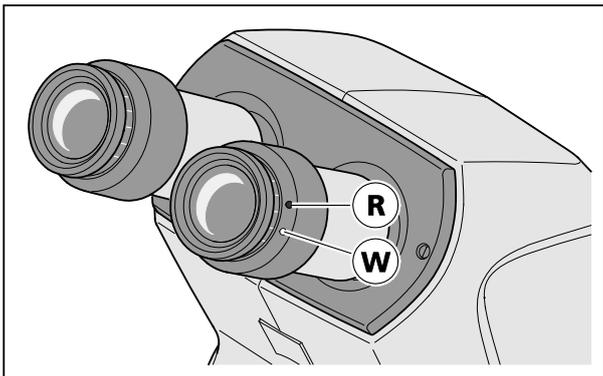

Fig. 14 Adjusting the eyepieces
-  "0" on white dot (without eyepiece plate). "0" on red dot (with eyepiece plate), see Fig. 14.